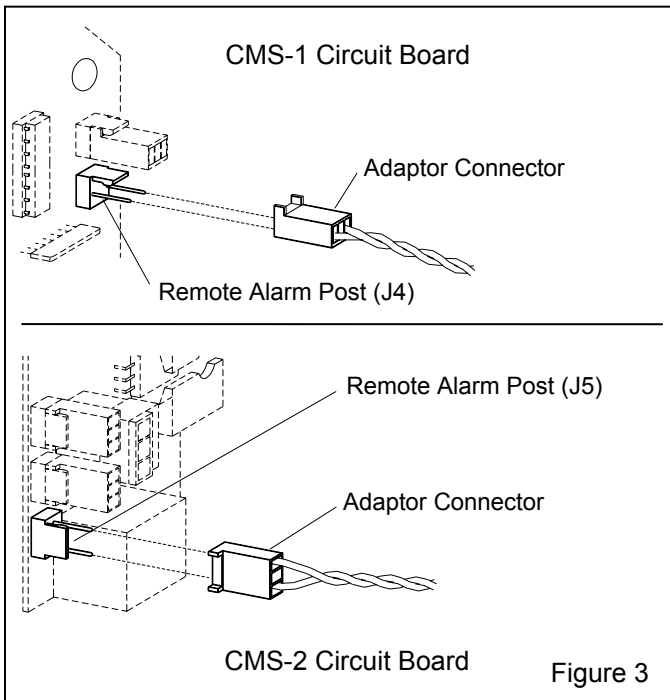

Figure 3
2.1.2.6 Plug the wiring adaptor connector to the unused post (J4 on CMS-1) (J5 on CMS-2) located on the circuit board, as shown in Figure 3.